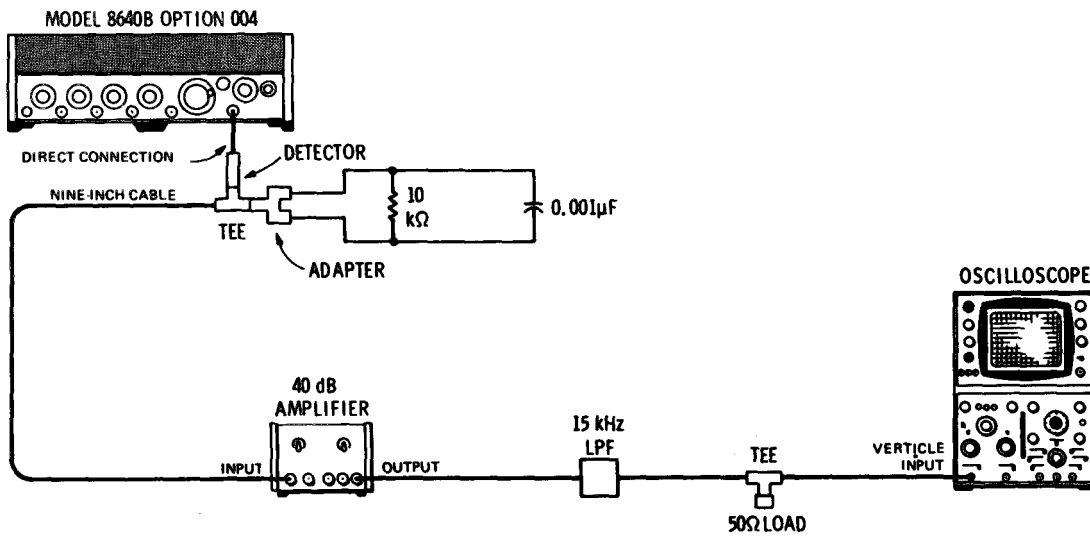

Figure 4-31. Incidental AM Test Setup
1. Connect equipment as shown in Figure 4-31 (with network, adapter, tee, and detector connected as shown) after setting Signal Generator's controls as follows: